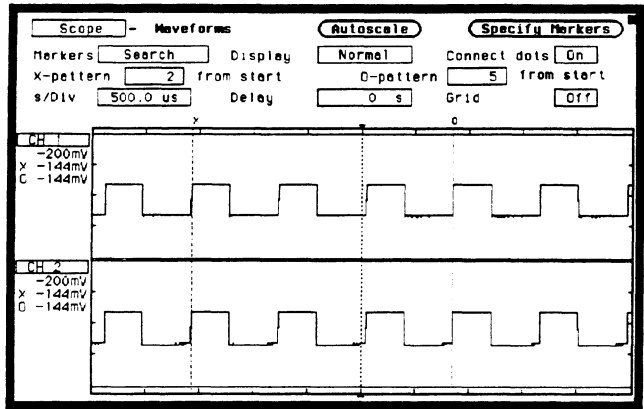

Figure 25-21. Search Markers Menu
1. In the Waveforms menu, select **Markers** field. When the pop-up appears, select the **Search** field. With Markers set to Search, two new fields will appear: **X-pattern___from start**, and **O-pattern from start**. Set the X-pattern to 2, and the O-pattern to 5. Set the s/Div to 500 μ s. See figure 25-21.